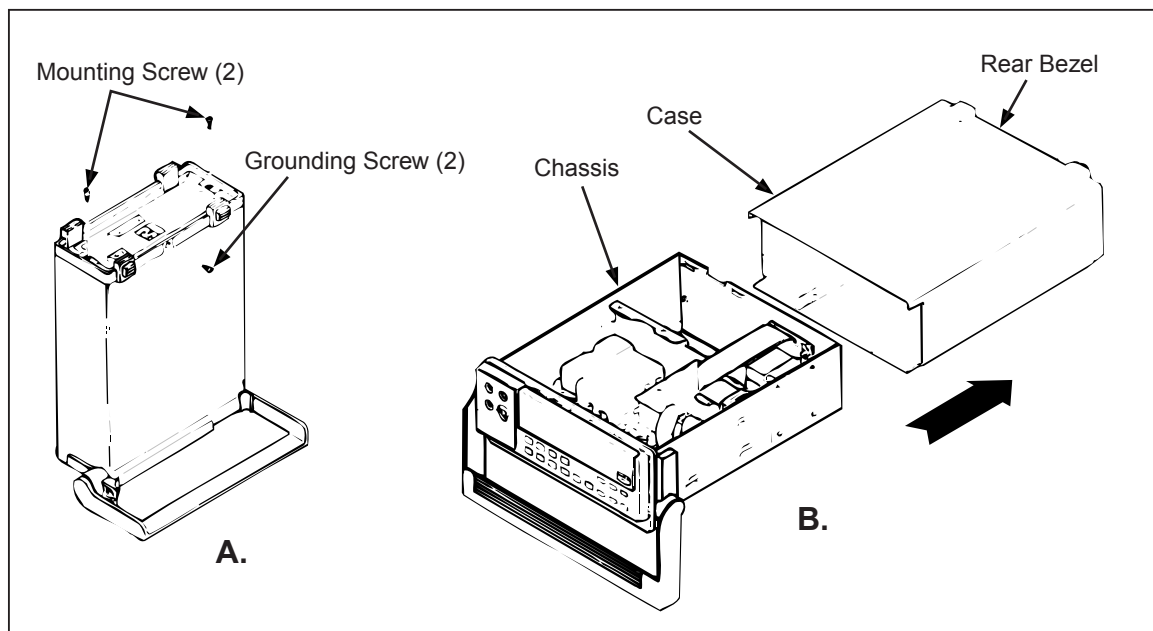

Figure 3-3. Removing the Case
3. Remove the screw from the bottom of the case, and remove the two screws from the rear bezel as shown in Figure 3-3 section A. While holding the front panel, slide the case and rear bezel off the chassis. (See Figure 3-3 section B.) (At this point, the rear bezel is not secured to the case.)